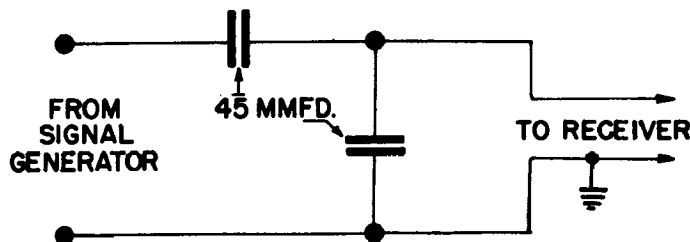

Fig. 11
Figure 11 shows the schematic of a recommended dummy antenna, closely resembling actual antenna capacity, to be used in series with signal generator leads when aligning the R.F. section of the receiver.
1. Connect signal generator leads through dummy illustrated in Fig. 11 to antenna lead in socket on receiver.
3. Connect signal generator leads through dummy illustrated in Figure 11 to antenna receptacle on the receiver.